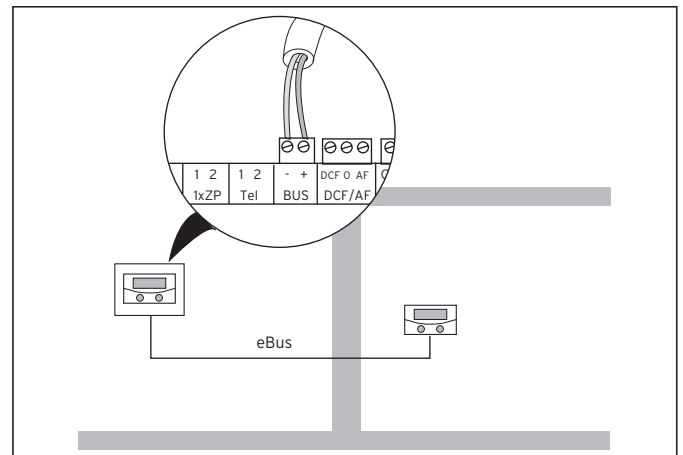

Fig. 4.1 Connecting the remote control
- Connect the connecting cable as shown in Fig. 4.1.
- Place the remote control device (1) on the mounting box so that the pins on the back of the top part fit into the recesses (2).